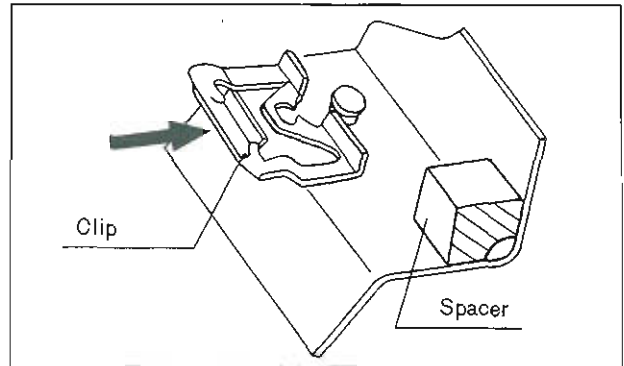

Fig. 14-30 Installing of mould retaining clip
5. Insert each mould retaining clip to the clip insertion portion in the manner shown in Fig. 14-30. Replace the retaining clips as required to insure adequate mould retention.